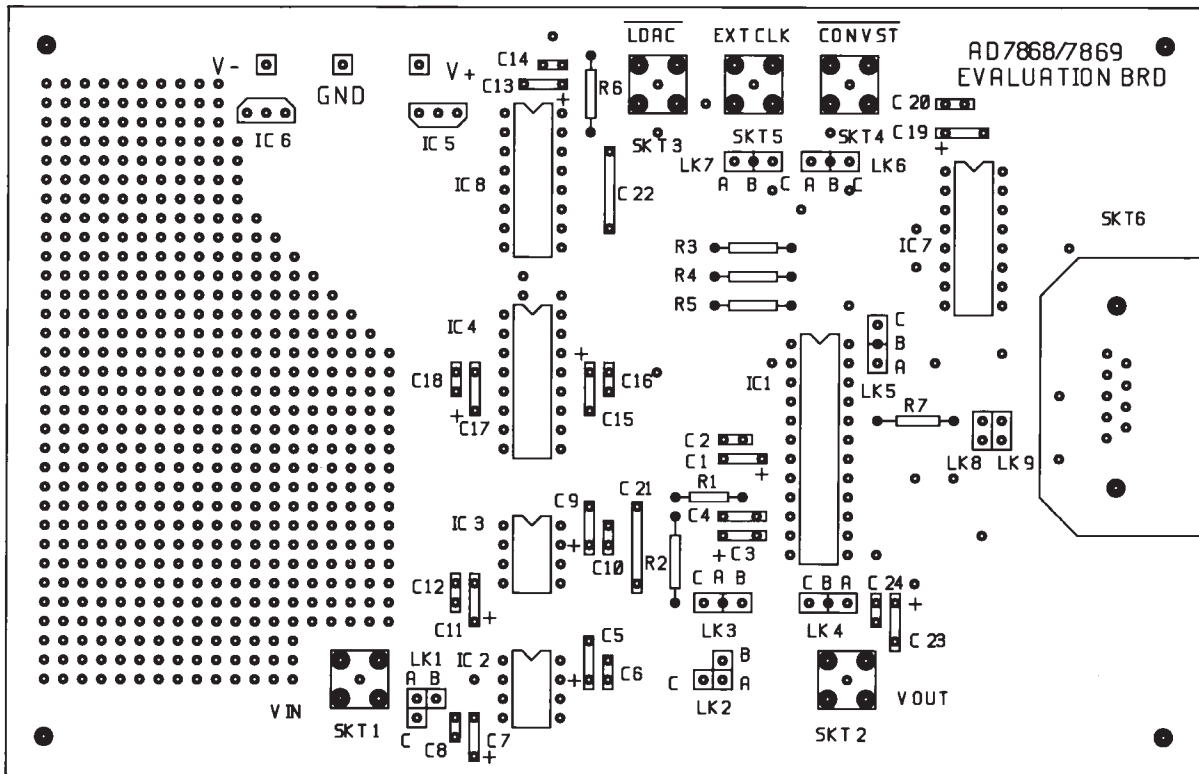

Figure 21. Silkscreen for the Circuit Diagram of Figure 19
Figure 19 shows an analog I/O board based on the AD7869. The corresponding printed circuit (PC) board layout and silkscreen are shown in Figures 21 to 23.
The PC board requires two analog power supplies and one 5 V digital supply. Connections to the analog supply are made directly to the PC board as shown on the silkscreen in Figure 21. The connections are labeled  $V_{+}$  and  $V_{-}$ , and the range for both of these supplies is 12 V to 15 V. Connections to the 5 V digital supply are made through the D-type connector SKT6. The  $\pm 5$  V analog supply required by the AD7869 is generated from two voltage regulators on the  $V_{+}$  and  $V_{-}$  supplies.